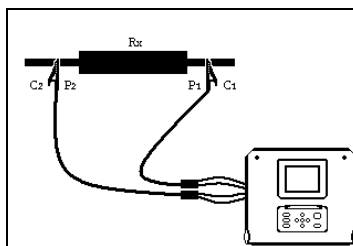

Figure 5.3: Measurement of Resistance
- Connect device under test to the instrument (see figure 5.3).